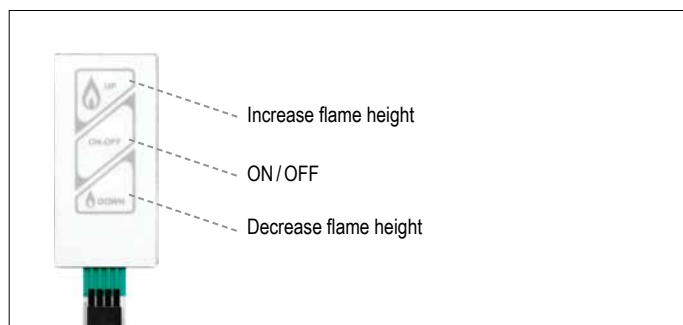

Figure 19: Touchpad/Wall Switch
- Press **ON-OFF** button (see figure 19, page 11) until two short beeps confirm the start sequence has begun; release button.